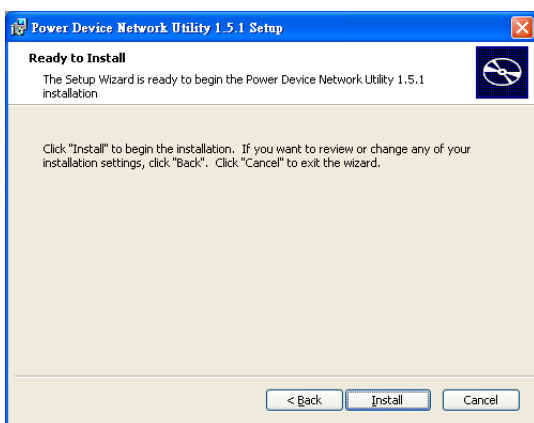

Figure 3.
Step 4. Select Install to confirm the settings and install (Shown in Figure 3.).